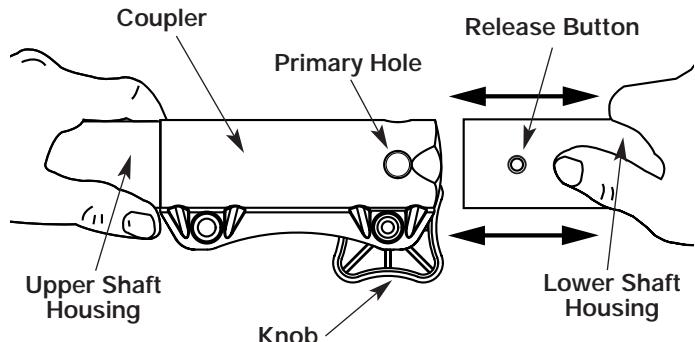

Fig. 6
3. While firmly holding the upper shaft housing, pull the snow thrower attachment out of the coupler (Fig. 6).
3. While firmly holding the add-on, push it straight into the coupler (Fig. 6).
CAUTION: Lock the release button in the primary hole (Fig. 6) and securely tighten the knob before operating this unit.